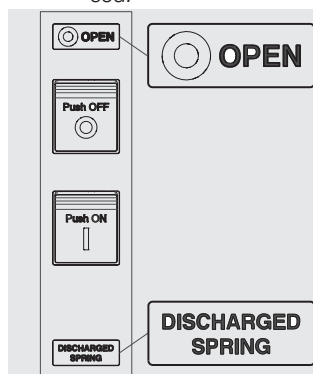

Figure 80
1. Circuit-breaker open with springs discharged (see Figure 80).